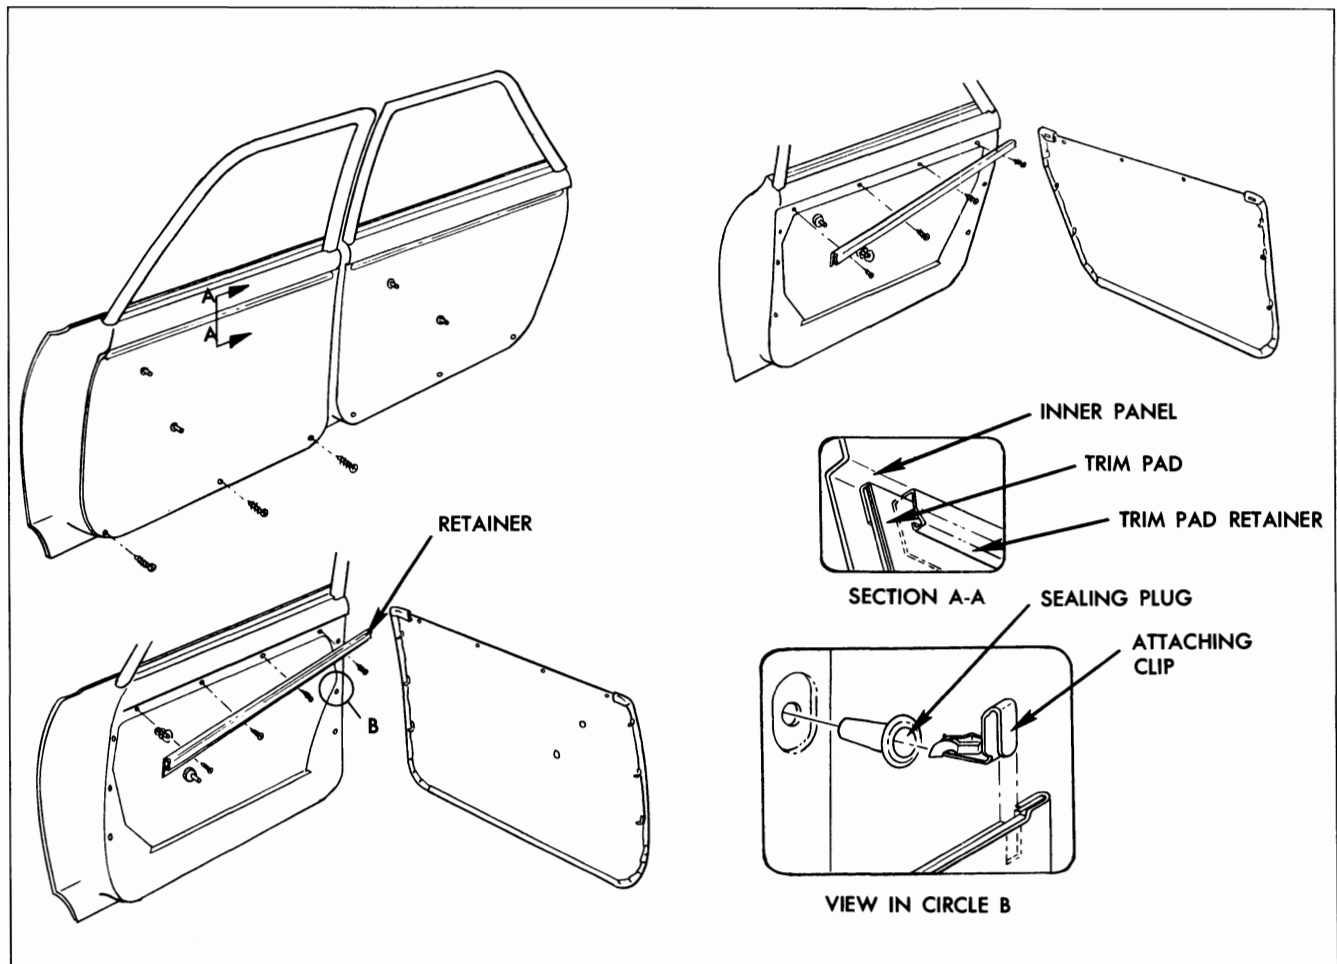

Fig. 12-5 Trim Pads
3. Carefully insert tool J-6335, or a suitable flat-bladed tool, between trim assembly and inner panel at retaining clip locations and disengage clips from retaining plugs (Fig. 12-5).